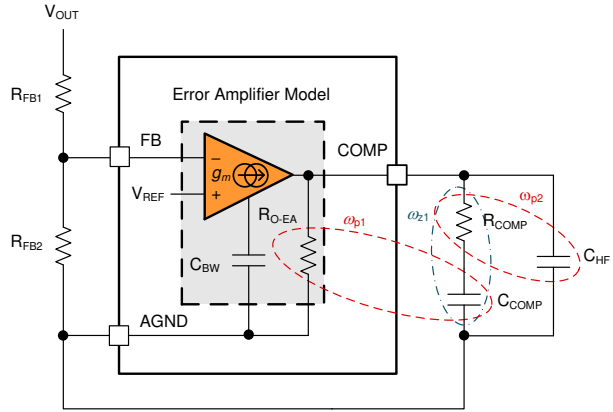

Figure 9-4. Error Amplifier and Compensation Network
Figure 9-4 shows a type-II compensator using a transconductance error amplifier (EA). The dominant pole of the EA open-loop gain is set by the EA output resistance, $R_{\text{O-EA}}$, and effective bandwidth-limiting capacitance, C_{BW} , as shown by Equation 29.